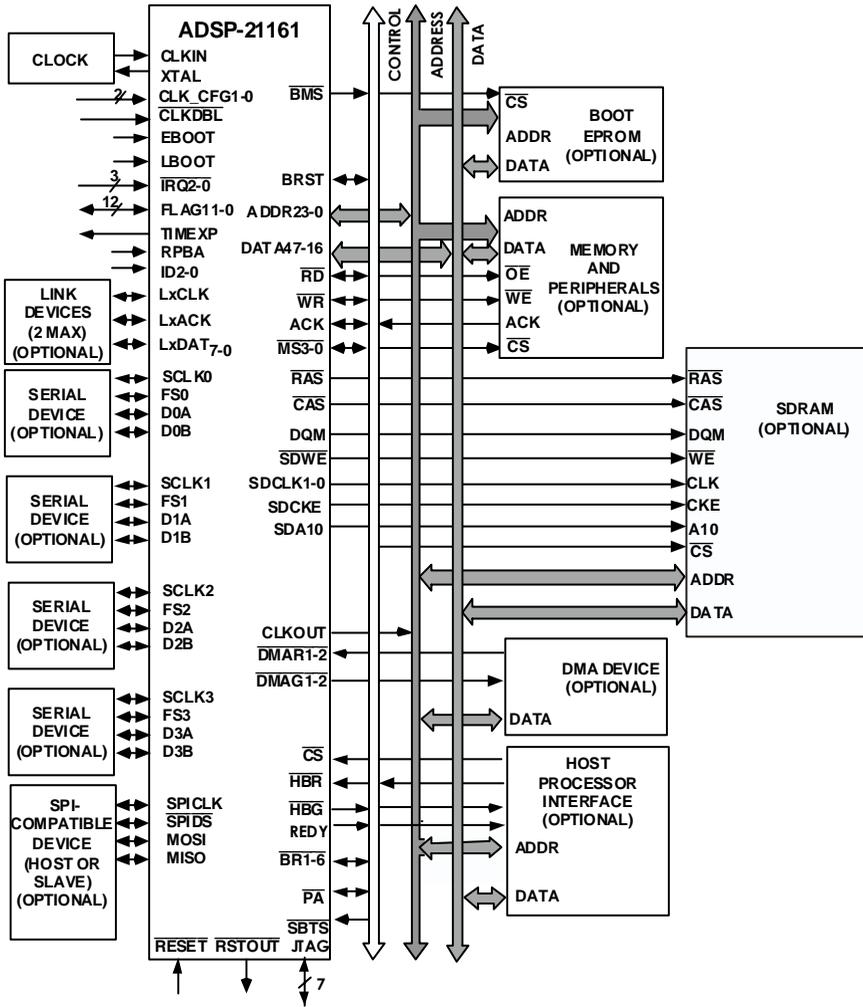

Figure 1-2. ADSP-21161 Typical Single Processor System
Figure 1-2 illustrates a typical single-processor system. The ADSP-21161 includes extensive support for multiprocessor systems as well. For more information, see “Multiprocessor (MP) Interface” on page 7-93.